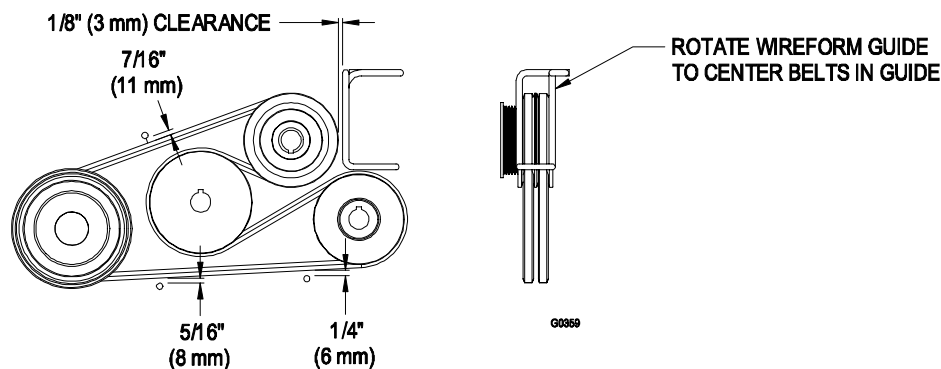

FIGURE 10
- Adjust belt guides as shown in Figure 10.